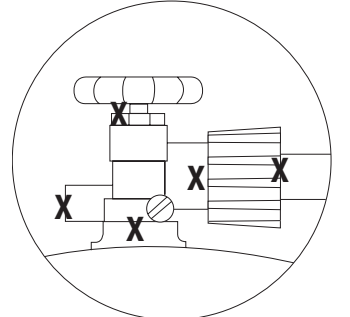

Figure 4
9. If igniter does not light burner, use a lit match secured with the lighting rod provided to light burners manually. Access the burners through the bottom bowl. Position the lit match near side of the burner (Figures 4 and 5).